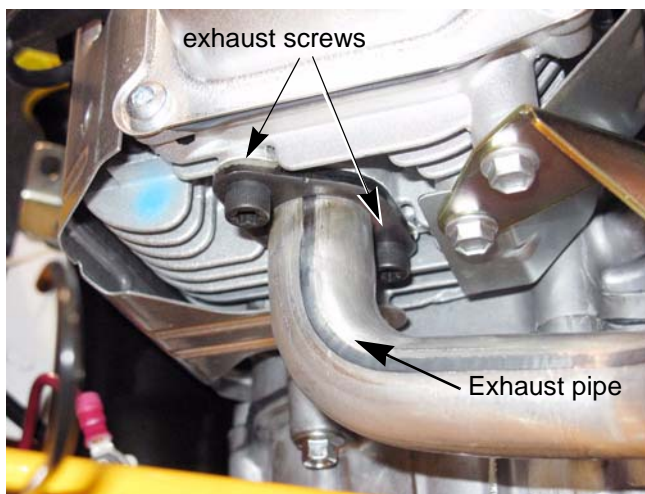

Figure 2.2
3. Remove the two screws that hold each exhaust pipe to the cylinder head using a T-27 torx driver. See Figure 2.2.